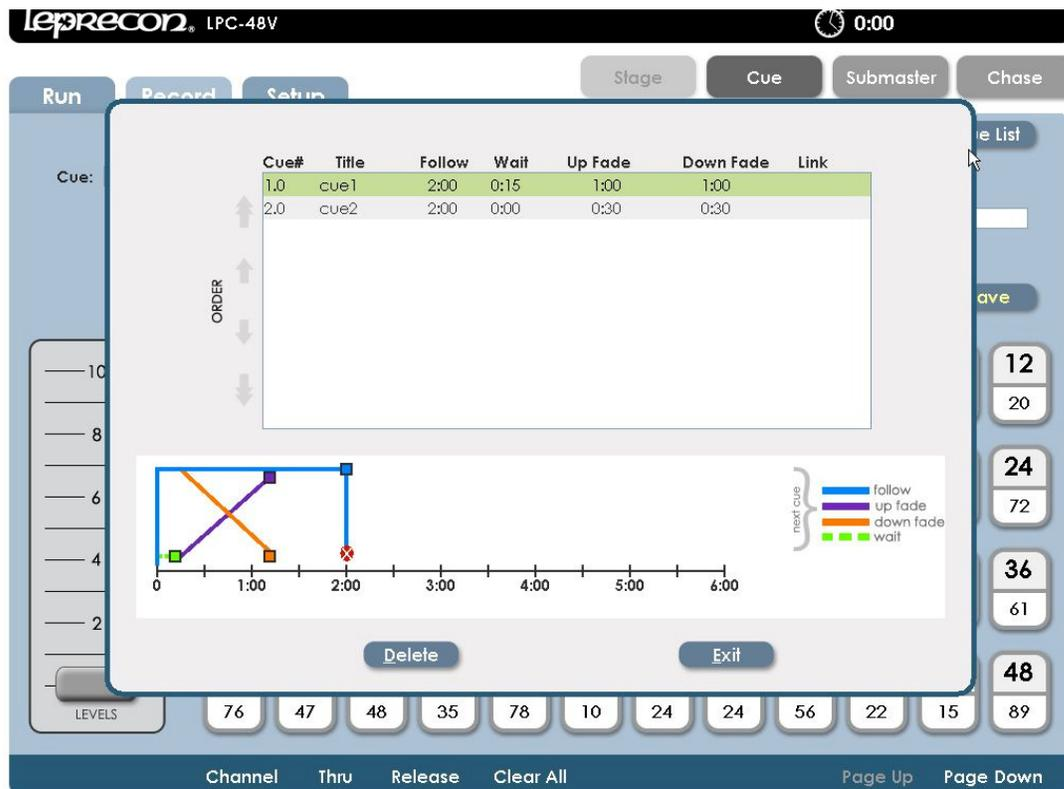

Figure 30: Cue List Screen
**Cue Order** can be changed by selecting a cue. Using the up and down arrows on the left side of the screen will move a cue up or down the list, (See figure 30).